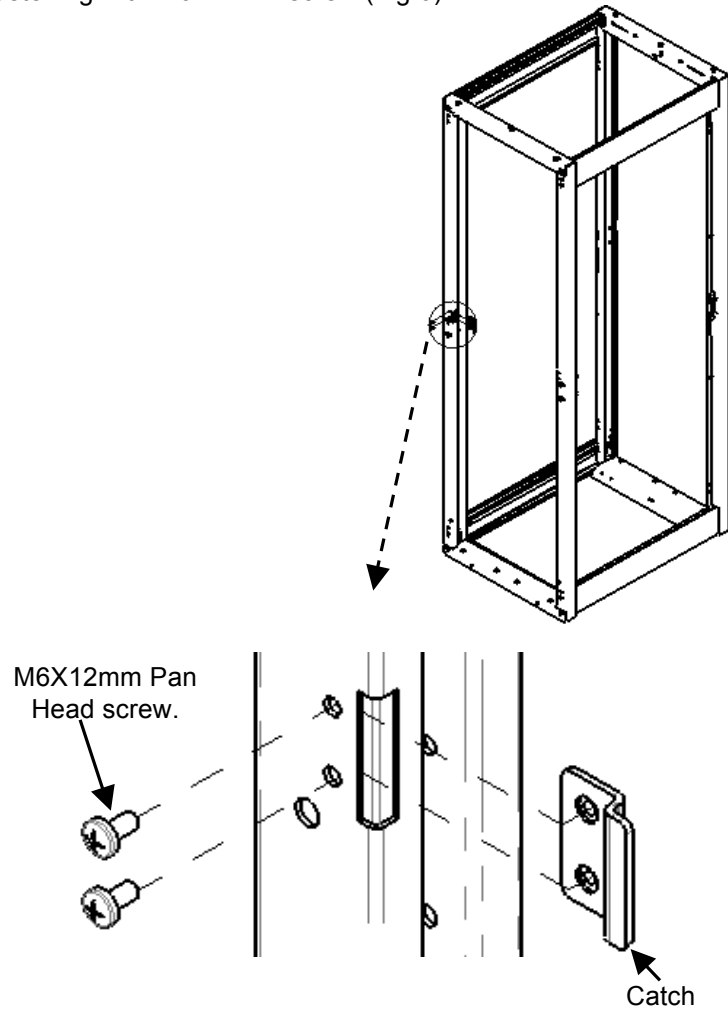

Fig. 6
1. Install the Catch in the upper cut-out in the frame opposite the hinges, fastening with M6x12mm screw.(Fig.6)
3. Secure the ELS1500 lock to the rear plate with M5 X 16mm screw while holding the front plate & door in between.(Fig.6)